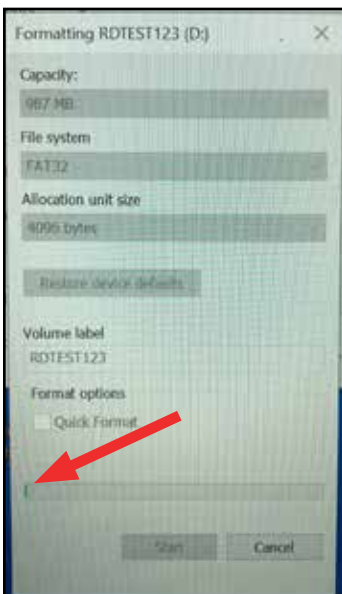

Figure 6
8. Watch for the green bar at the bottom of the window to start to fill (Figure 6).